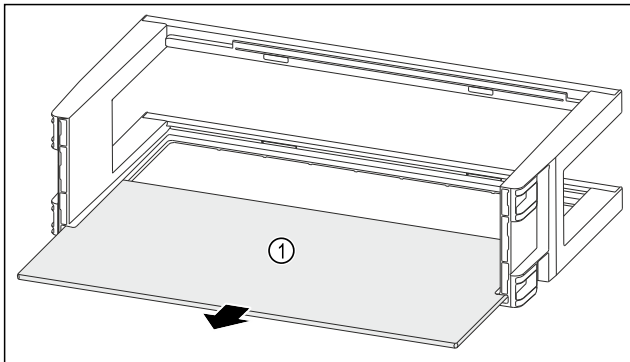

Fig. 107
- ▶ Remove the shelf Fig. 107 (1).